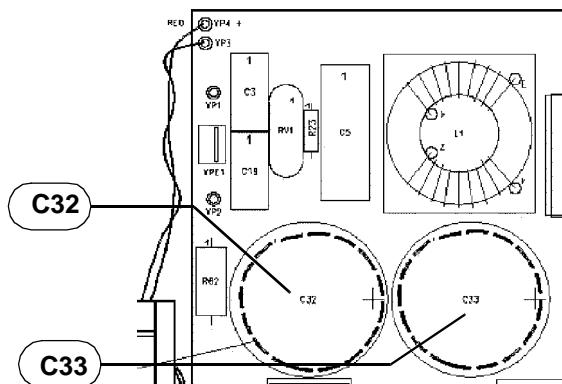

FIG. 2 REF. 1
- the state of the levelling condensers C32 and C33 (fig. 2) check if there are swellings or breaks on the container